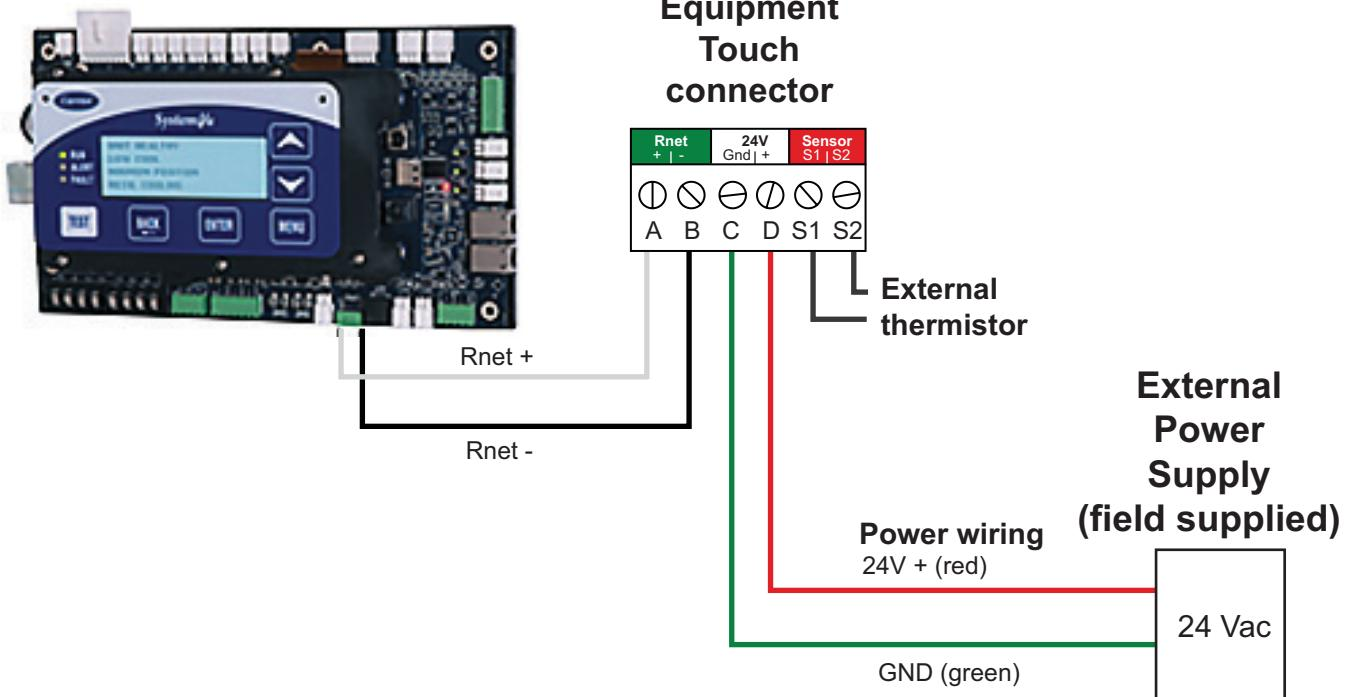

Fig. 11 – SystemVu to Equipment Touch Pin Connections (over RNET)
3. Connect Equipment Touch to SystemVu over Rnet as shown in Fig. 11.